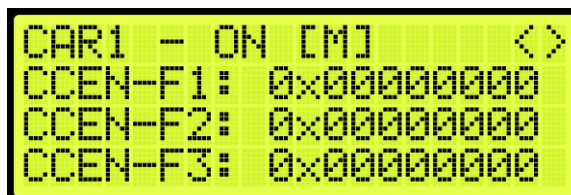

Figure 276: Front Car Call Enable Bitmap Status
15. From the Front Car Call Enable Bitmap Status (See Figure 276), press the right button.